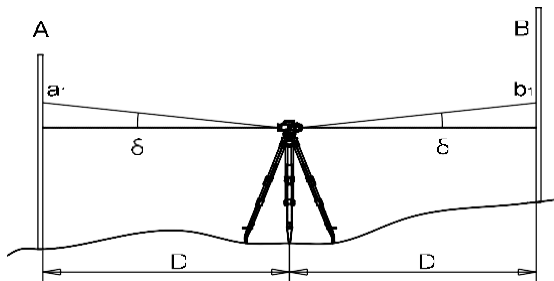

Fig 17
- (1) Set the instrument at a point halfway between point A and B spaced about 30-40m apart. Take readings of staff A and staff B as “a1” and “b1”.(Figure 17) Calculate the real height difference :  $\Delta H = a_1 - b_1$